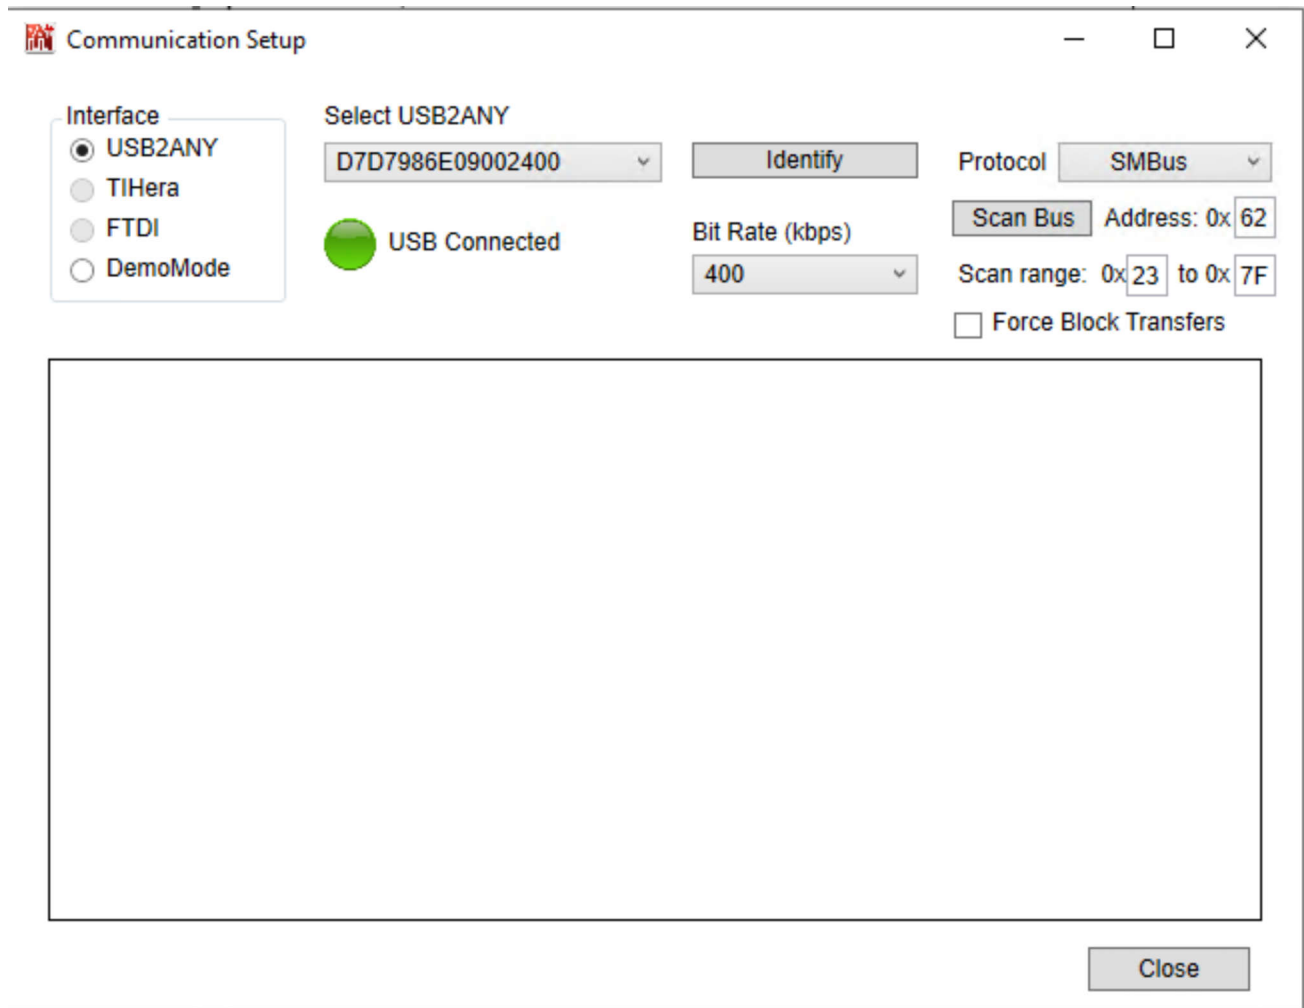

Figure 2-3. Communication Setup
- d. Confirm all the fields match the ones shown in Figure 2-3.